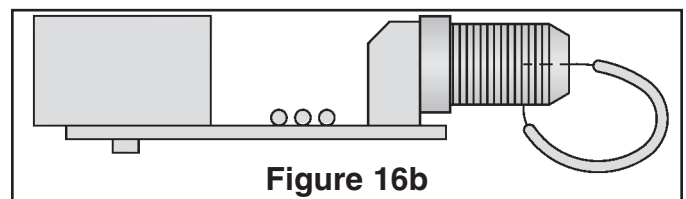

Figure 16b
- 2. Using a short piece of wire or a discarded lead from one of the components, short the F-connector on the terminator PC board as shown in Figure 16b.